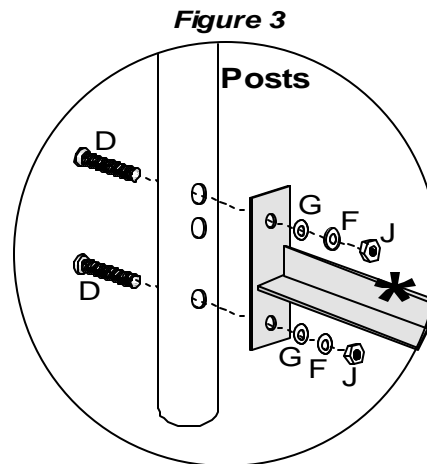

Figure 3
ON FIGURE 3.**
Attach Bed Frame (*Not Included) to each Leg Extension (B) & post on Footboard Panel (B) using 2 Long Allen Bolts (D) from the back side, 2 Rubber Washers (H), 2 Metal Washers (G), 2 Spring Washers (F) & 2 Hex Nuts (J) per each post & leg extension. See Figure 3. Tighten all bolts only using Allen Wrench (K) provided. Assembly is now complete.